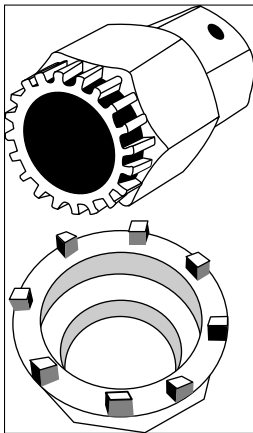

Figure 3-11:
- ✓ **Bottom bracket tools (see Figure 3-11):** Depending on the type of bottom bracket on your bike, you'll need one or more tools. Review your owner's manual or check with your local bike store to identify the manufacturer and model — this'll determine what tools you need.